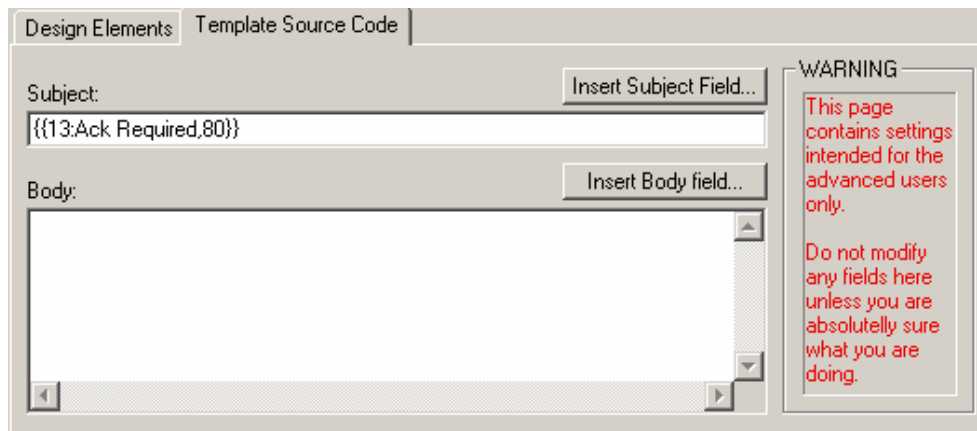

Figure 5.4. Media Template Configuration: Template Source Code Tab
- Click on the **Template Source Code** tab in the template configuration dialog box. The **Template Source Code** tab, shown in **Figure 5.4**, displays all of the fields in an editable format. If you need to manually edit a field, you can do so here.